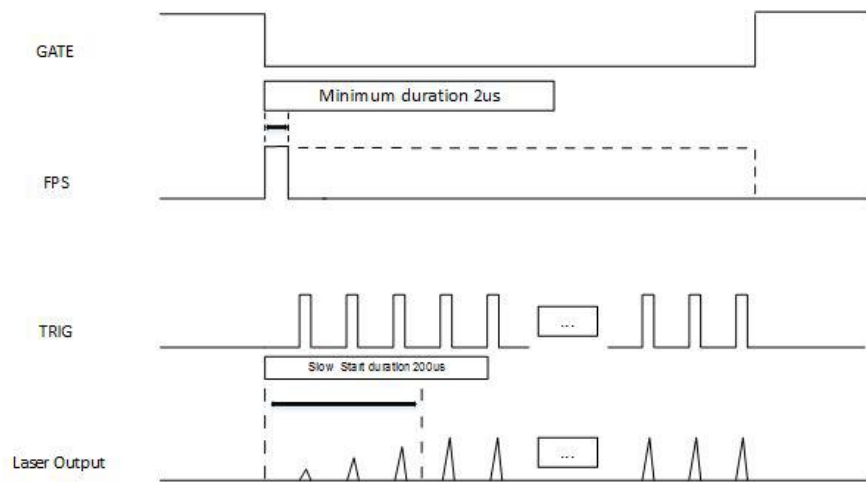

Figure 19 Control timing
For the emitting of laser pulse under external control mode, a correct timing signal has to access at laser DB15, as shown in figure 19.
* For customers might be using different marking card, we made particular convert card so that the customers may convert corresponding timing signal as figure 19.
③ "PWM" on the adapter card means the PWM signal output on the marking card is the same co-phase as TRIG signal (as figure 19 shows). " $\overline{\text{PWM}}$ " means the output PWM signal on the marking card is the inverse as the TRIG signal (as figure 19 shows). When the modulation signal to "PWM", short circuit PIN2 and PIN3 of J5 with the short cap. When the modulation signal to " $\overline{\text{PWM}}$ ", short circuit PIN1 and PIN2 of J5 with short cap.
4. "FPS" on adapter card means the output signal is the same phase as the FPS on laser source (as figure 19 shows), " $\overline{\text{FPS}}$ " means the output signal is the converse polarity as the FPS on the marking card. When connecting the "FPS" on marking card with FPS on the adapter card, short circuit PIN2 and PIN3 of J3 with short cap. When the first pulse killer signal to " $\overline{\text{FPS}}$ ", use short circuit PIN1 and PIN2 of J8 with short cap . When the FPS function is not enabling, please use jumper cap to connect 1,2 pins of J8.